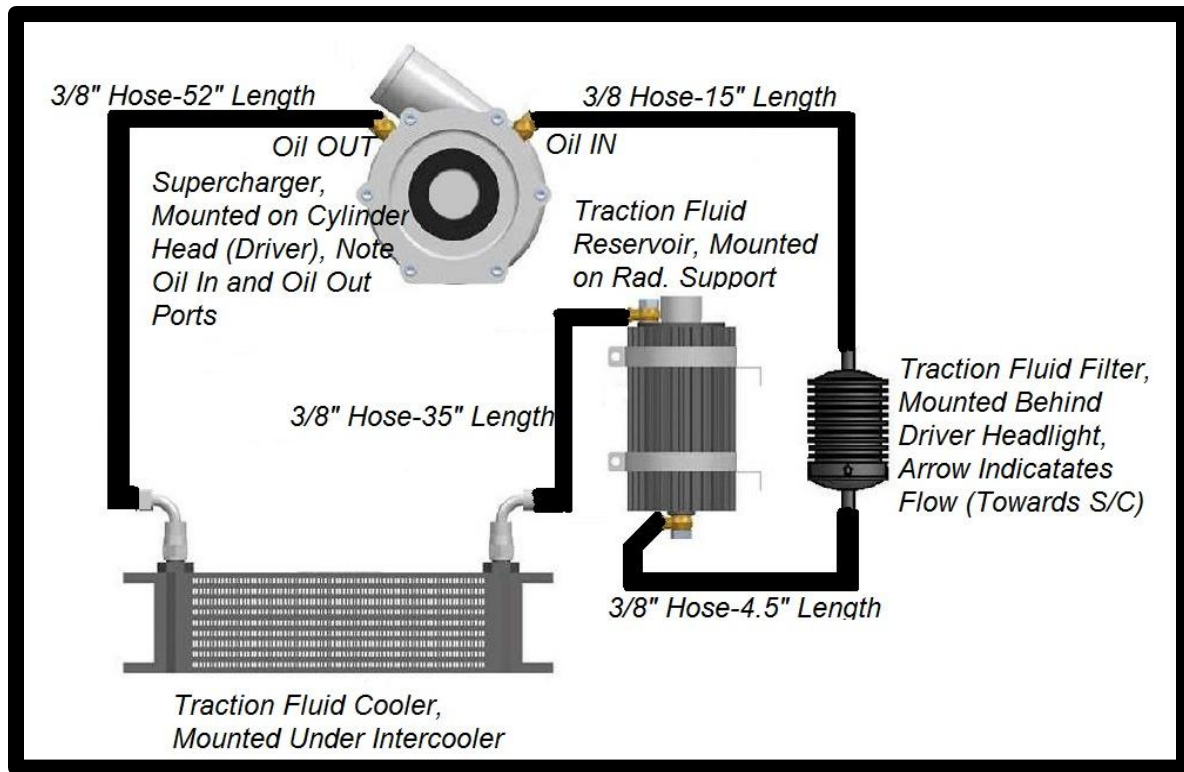
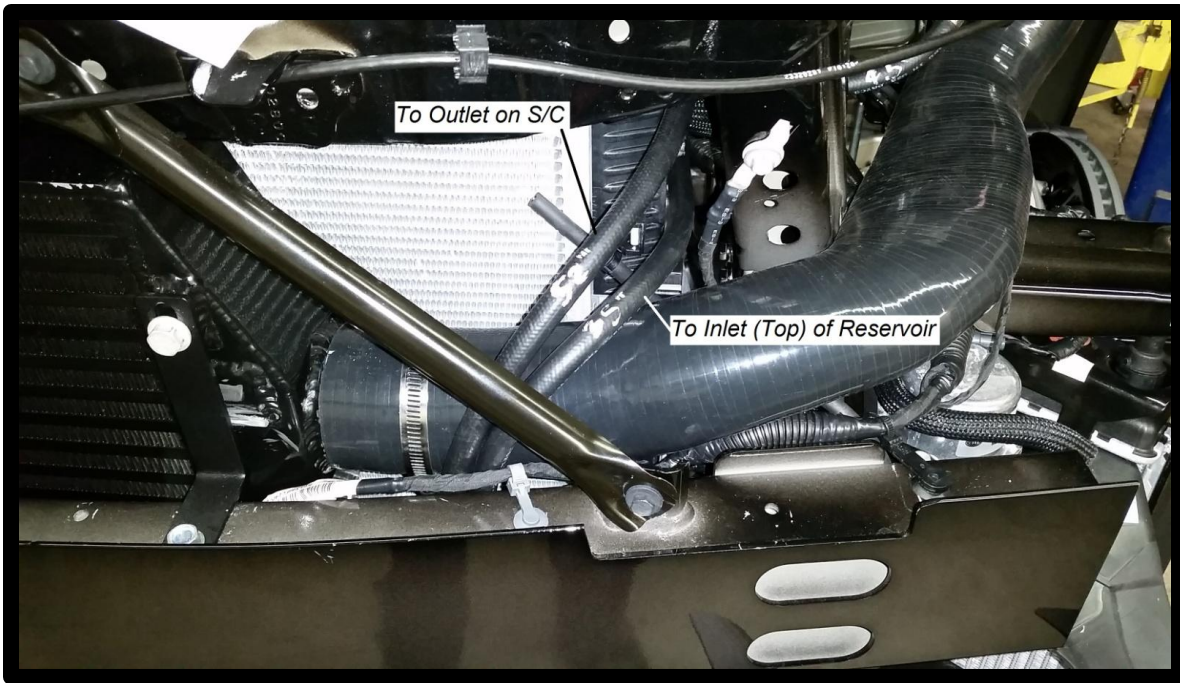

Figure 60: Traction Fluid Cooling System
Figure 61: Routing of Traction Fluid Hoses (1/2)
26. The supplied 3/8" hose is precut to length and shipped with loom. Connect the system as shown in the diagram in Figure 60 below using the precut hose and supplied 7/32"-5/8" hose clamps. Figures 61 and 62 describe how the hoses were routed. The white numbers written on the hoses indicate the length of that hose.